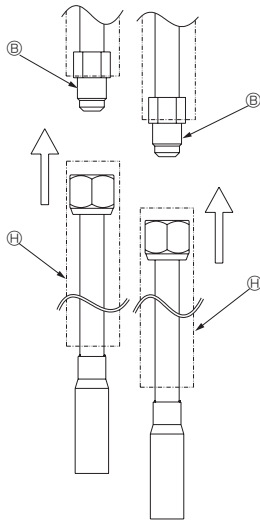

Fig. 3-21
- (1) Attach the piping by following the procedure for right rear piping (4) to (5).
- (2) Connect I-shape connection pipe ③, and tighten the nuts with two wrenches. (Flare nut tightening torque is 68 N·m to 82 N·m, 50 to 60 ft·lbs) (Fig. 3-21)
- (3) The remaining steps are the same as steps (7), (8) and (9) for the right and right rear piping work.